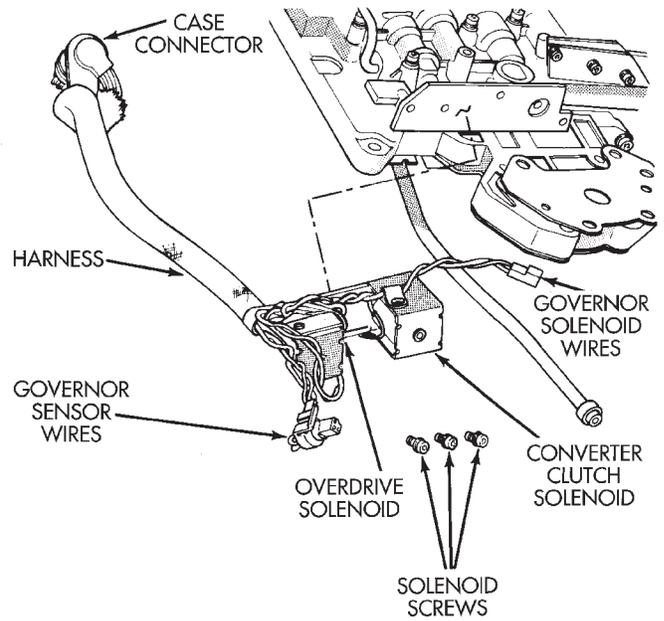

Fig. 68 Solenoid Assembly
- (11) Remove solenoid and harness assembly from valve body (Fig. 68).